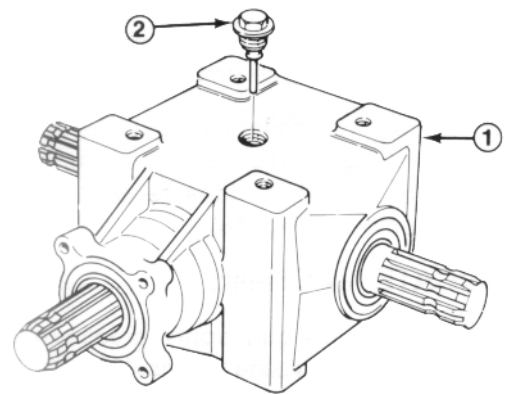

Figure 2
1. With machine on level surface, remove the oil fill/dipstick plug from the right-angle gear case (Fig. 2).